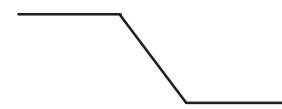

Figure 4-16b. Output Voltage
The three waveforms shown in Figures 4-16b, c and d, depict how ground bounce is generated. The first waveform shows the voltage (V) across the load as it is switched from a logic HIGH to a logic LOW. The output slew rate is dependent upon the characteristics of the output transistor, the inductors L1 and L3, and CL, the load capacitance. The second waveform shows the current that is generated as the capacitor discharges [ $I = C_L \cdot dV/dt$ ]. The third waveform shows the voltage that is induced across the inductance in the ground lead due to the changing currents [ $V_{gb} = -L \cdot (dI/dt)$ ].